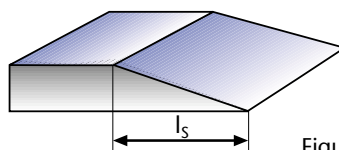

Figure 2
- 2.3 **Unwind about half a metre of the tape** and cut the end with a sharp knife on a clean, firm surface using the skiving technique shown in figure 2. Select the appropriate dimensions for the cut (l_s), depending on the gasket thickness being used, from the table below.